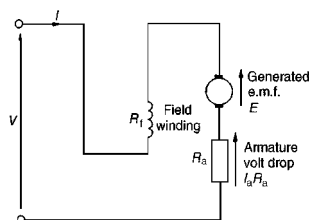

Figure 22.20
In the series-wound motor the field winding is in series with the armature across the supply as shown in Fig. 22.20
For the series motor shown in Fig. 22.20,
- (a) With reference to Fig. 22.20, generated e.m.f., E_1 at initial load, is given by